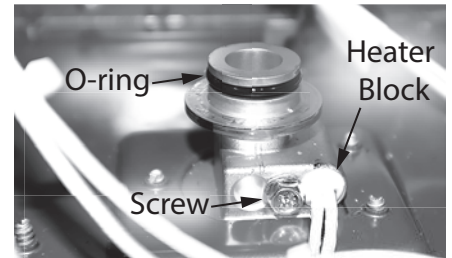

Figure 221 - Heater block location
- 21 Locate the screw securing the heater block in the base of the inlet assembly. See Figure 221. Use a Phillips screwdriver to remove the screw. Place the screw aside in a safe place for reinstallation.
- 26** Place the new O-ring on the new inlet assembly. See Figure 221.